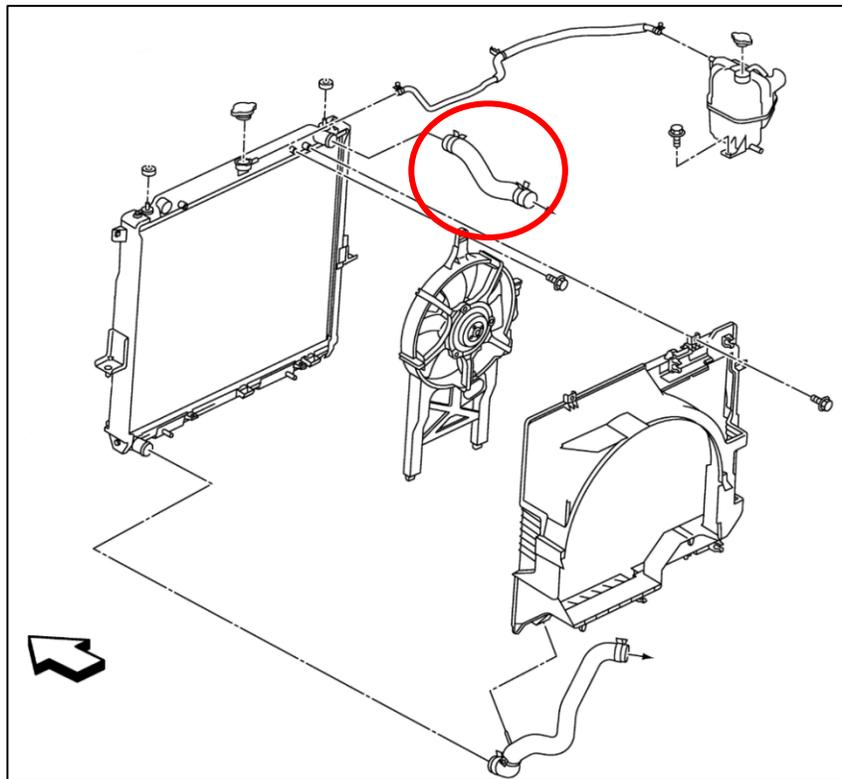

Figure 4
9. After coolant is drained, remove the OE Upper Radiator Hose, circled below in *Figure 4.* Retain the Hose Clamps as they will be reused.